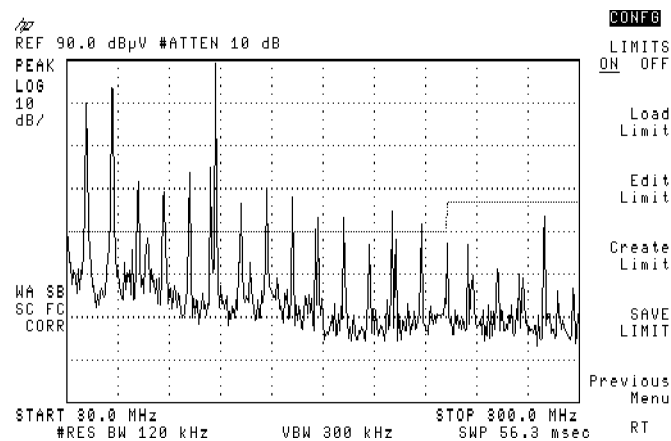

Figure 3-50. Loaded Limit Line
9. Press **LOAD FILE**. See Figure 3-50.